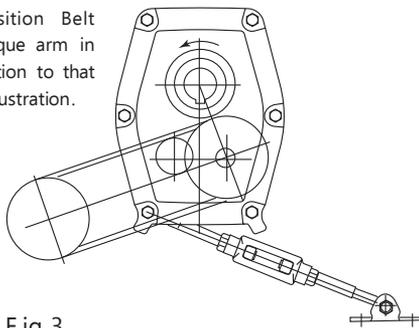
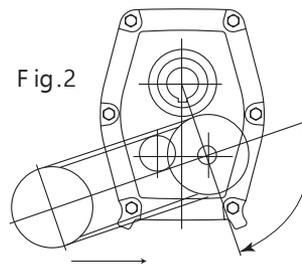

Fig.3
Fig.2
- 2、安装电机时，电机带轮和减速机的输入轴带轮中心的连线应该和减速机输出轴与输入轴中心的连线成大约90°关系（参考图2），这样可以用扭力臂拉紧皮带。如果输出轴是逆时针旋转，扭力臂最好被固定在减速机的右边（参考图3）。
- 2、 Install motor and wedge belt drive with the belt pull at approximately 90° to the center line between driven and input shafts(See Fig.2). This will permit tensioning of the wedge belt drive with the torque arm which should preferably be in tension. If output hub runs anti-clockwise, torque arm should be positioned to the right(See Fig.3).